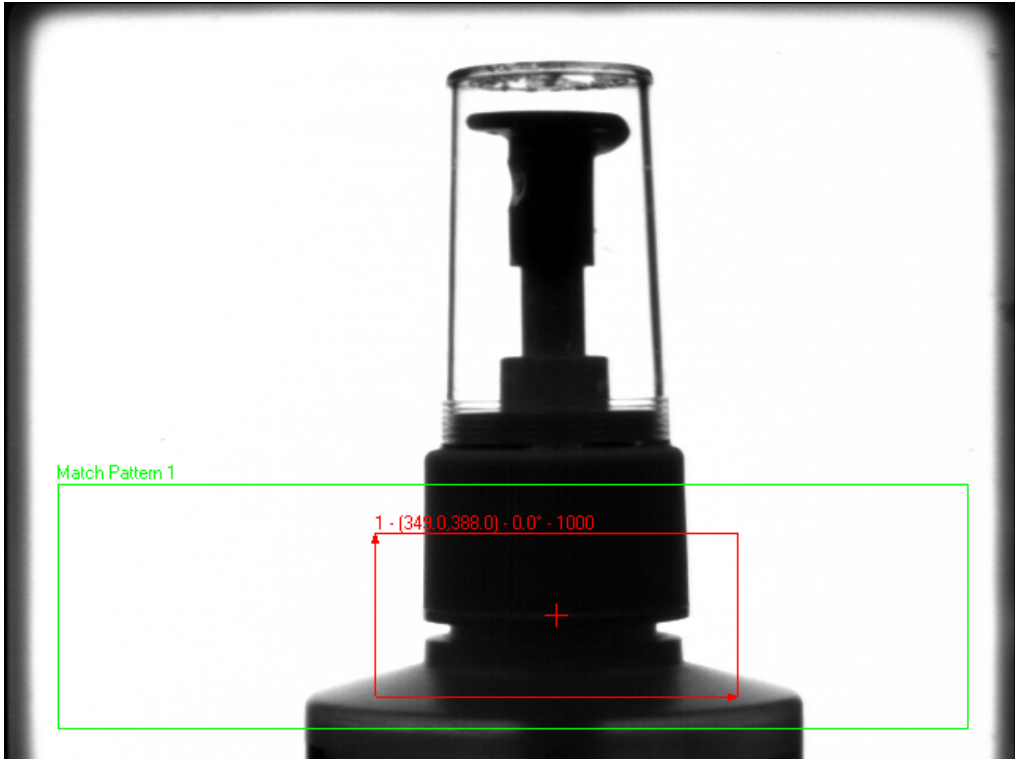

Figure 2-2. Limiting the Search Region
6. Redraw or decrease the default green ROI so that it surrounds only the lower portion of the image, as shown in Figure 2-2.